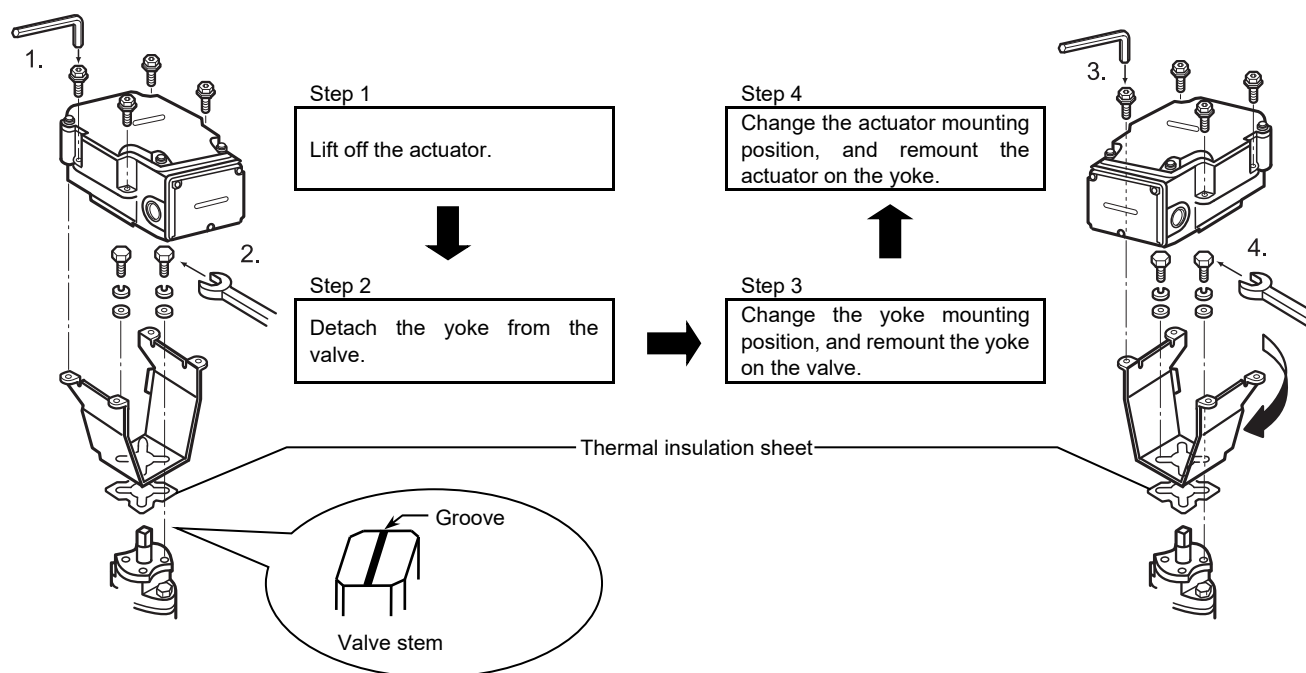

Figure 8. Changing the actuator mounting position
- 1) Remove the screws connecting the actuator and the yoke. Lift the actuator and detach it from the yoke. Make sure that the groove on the top of the valve stem is parallel to the pipes (indicating the valve in 100 % position). <Step 1 in Fig. 8>
- 2) Remove the screws connecting the yoke and the valve. <Step 2 in Fig. 8>
- 5) Before fixing the yoke to the valve with the screws, check that the actuator engages correctly with the valve stem (at the new mounting position). Check that the pointer of the actuator indicates 100 % position as well. Then, fix the yoke to the valve. <Step 3 in Fig. 8>
- 6) Mount the actuator. Place the actuator, with its facing direction changed, on the yoke, and fix them with the screws. <Step 4 in Fig. 8>